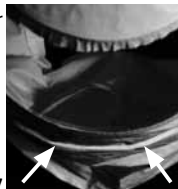
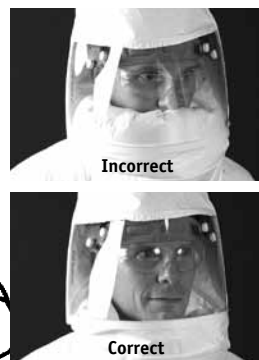

Figure 17
Figure 18
- Ensure that the neck cuff is down below the chin and that the air outlets of the cuff (see Figure 17) are not restricted. If the neck cuff is not below the chin, then pull down before continuing (See Figure 18).
- Ensure that the neck cuff is down below the chin and that the air outlets of the cuff are not restricted. If the neck cuff (see Figure 17) is not below the chin, then pull down before continuing (See Figure 18).